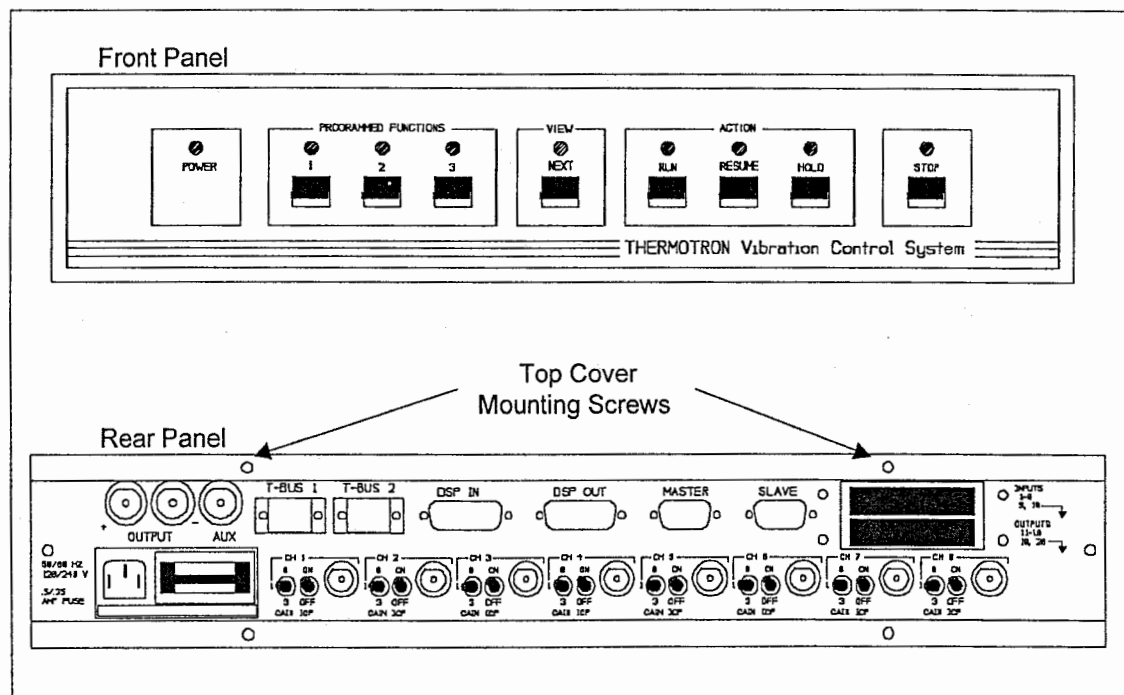

Figure 7-6. I/O Module Front and Rear Panels.
2. Locate the I/O module. See Figure 7-6. The I/O module can be mounted inside the amplifier console, or it can be mounted under the VCS P/C on a work station.